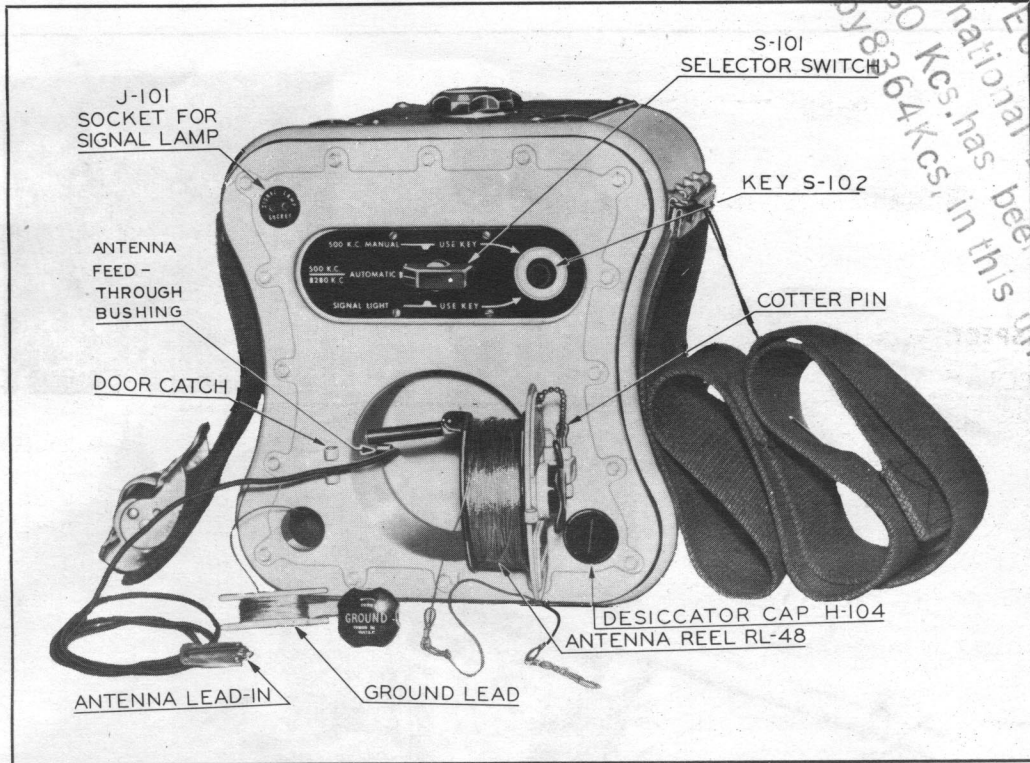
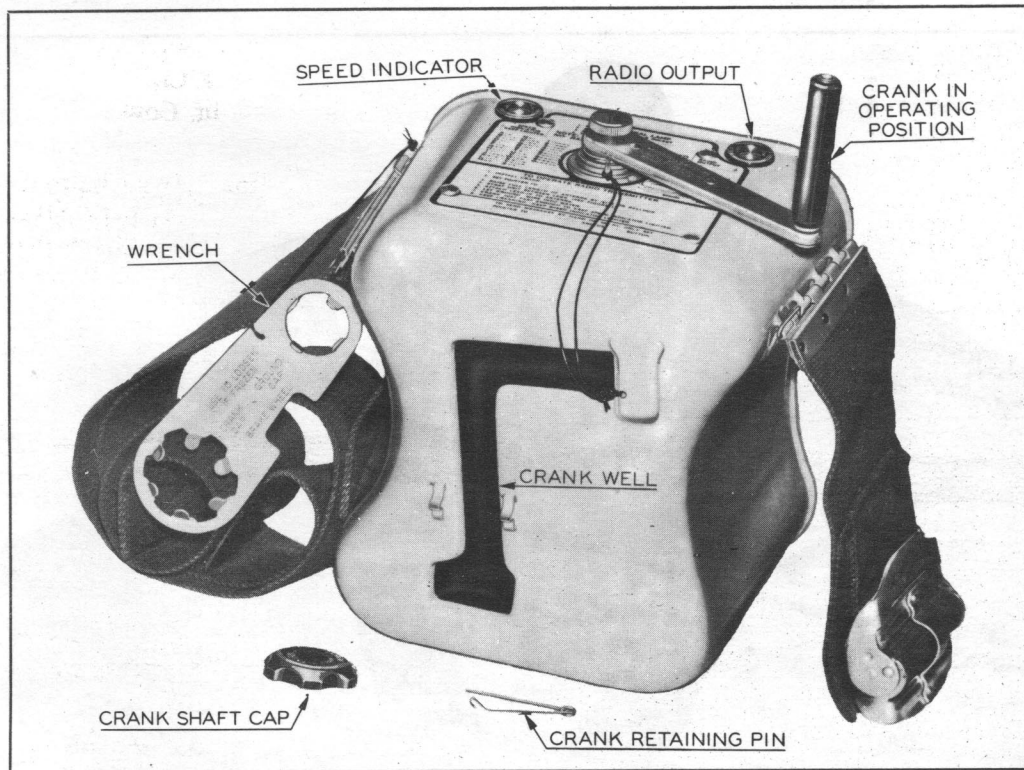

Figure 2-1. Radio Transmitter T-74/CRT-3—Front View
Figure 2-2. Radio Transmitter T-74/CRT-3—Rear View
*b.* Remove the cotter pin and open the door on the front panel of the transmitter. (See fig. 2-1.) Keep the door open by sliding the cotter pin into the holes provided on the door hinges. Take enough slack wire from the reel fastened to the back of this door to reach the kite or the balloon. Rotate the "BRAKE" knob clockwise to maintain a slight tension on the reel. Use the wrench attached to the belt to loosen the brake if it cannot be turned by hand. (See fig. 2-2.)
*c.* Unscrew the cap marked "GROUND" and remove the groundwire reel. (See fig. 2-1.) If necessary, use the wrench attached to the transmitter to loosen the cap. Unwind the wire and play it out into the water, using the cap as a weight to keep it submerged.
i. Remove the cap located at the top center of the transmitter, making the crank socket available. If necessary, use the wrench attached to the transmitter to loosen the cap. (See fig. 2-1.) In the well on the back of the transmitter is Hand Crank GC-18-A. (See fig. 1-3.) It is fastened to the case by a leash and is made available by the removal of the locking pin. The leash is long enough to enable the crank to reach the socket and must not be broken. Insert the crank into its socket and tighten the thumb screw. Save the cap, it should be replaced if the crank is removed.
(1) Set the selector switch pointer to "500 K.C.-8280 K.C.-AUTOMATIC." (See fig. 2-1.)
(2) To start transmission rotate the crank (see fig. 2-2) in a clockwise direction at approximately 80 to 100 revolutions per minute. When sufficient speed has been attained the lamp marked "SPEED INDICATOR KEEP LIGHTED" (see fig. 2-2) located on the top of the transmitter will light. Faster crank speeds are ineffective since the transmitter contains automatic voltage regulation, and undesirable since they will speed up the transmitter code characters.
(3) Continue cranking. Allow at least 20 seconds for the filaments of the vacuum tubes to heat, after which time the "RADIO OUTPUT" light should flash on and off with the keying of the transmitted signal. There are no further adjustments.
(4) In the "500 K.C.-8280 K.C.-AUTOMATIC" selector switch position, the transmitter automatically sends a signal consisting of six groups of "SOS" followed by a sustained dash of about 20 seconds duration. This occurs first on 500 kilocycles and then on 8280 kilocycles, automatically switching from one frequency to the other about every 40 or 50 seconds.